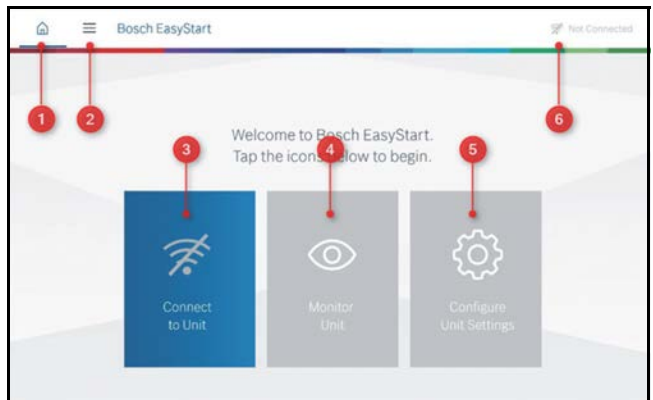

Fig. 24 Home Screen Elements
3. Once you accept the legal information and review the User Guide, navigate to the home screen. See Fig. 24.